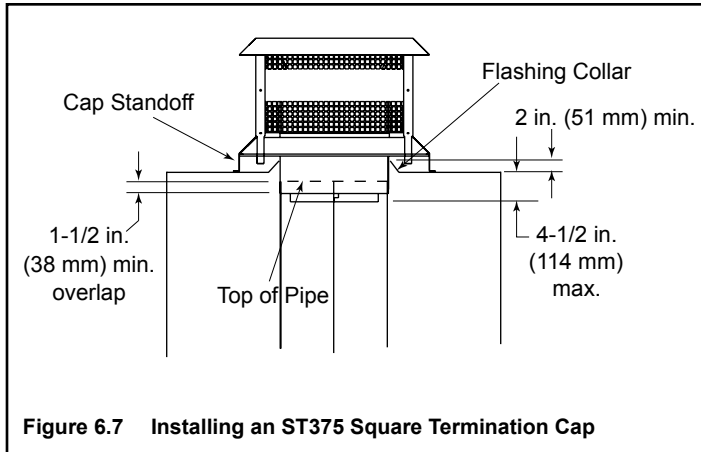

Figure 6.7 Installing an ST375 Square Termination Cap
- For installations utilizing an ST375 Square Termination Cap the last chimney section must not be more than 4-1/2 in. (114 mm) below the chase top. See Figure 6.7.